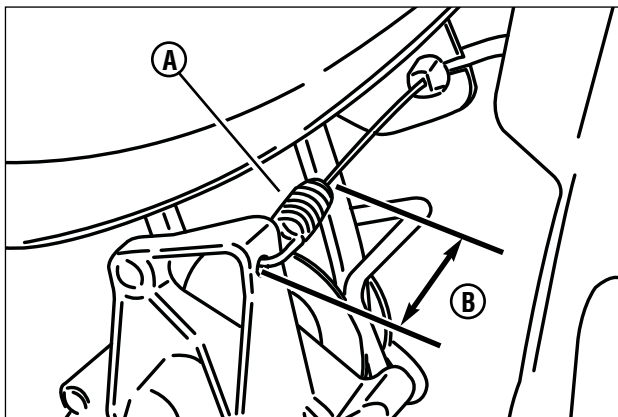

Figure 19: Measuring the disengaged transmission spring length
2. With the drive lever pulled fully back in the 'DISENGAGE' position, the spring (A, Figure 19) on the end of the wheel drive control cable should have no tension. Measure the overall length of the unextended spring (B).